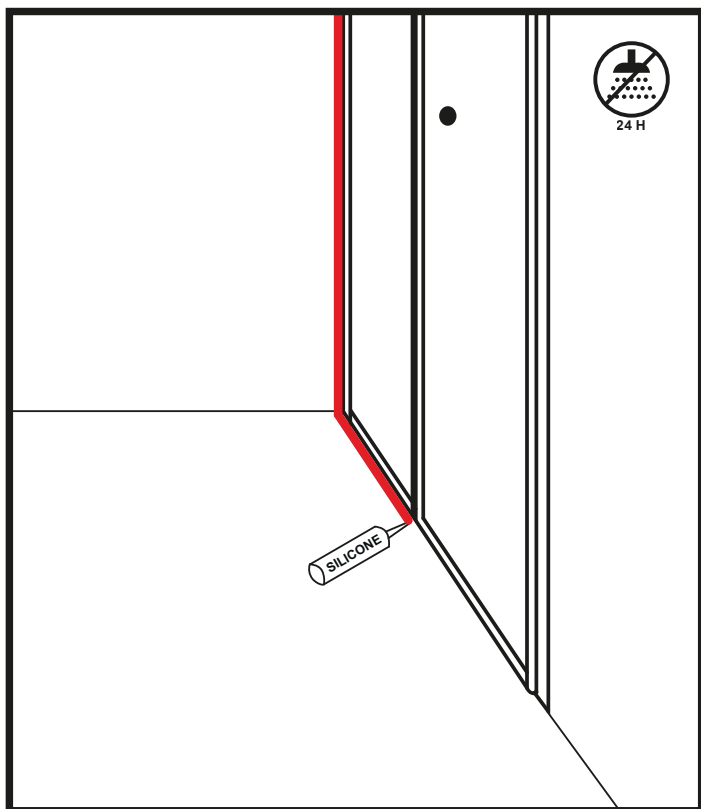
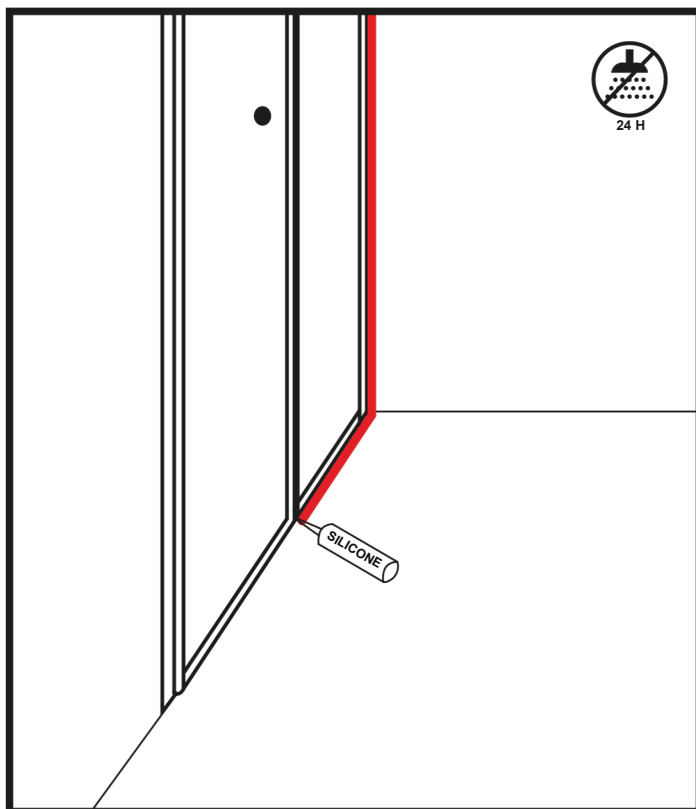

Figure 19
Figure 20
54. Apply an even bead of silicone to the edges of the U-profiles on both the inside (Figure 19) and outside (Figure 20) of the shower enclosure.